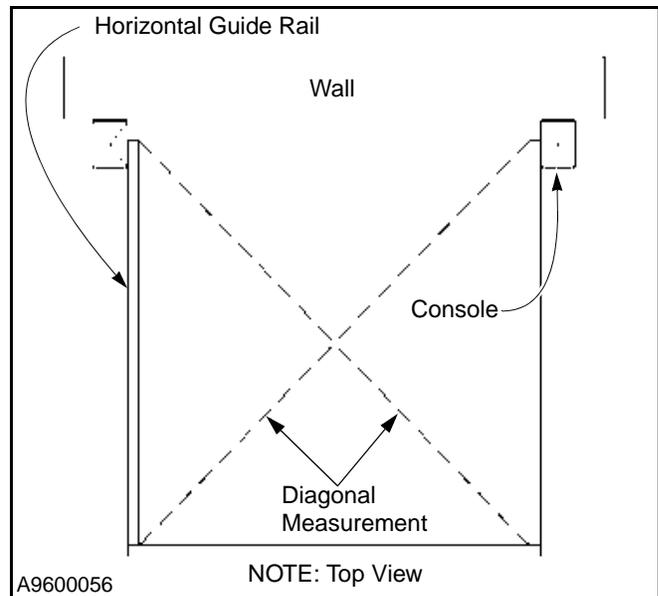

Figure 83
2. To get an accurate square reading of the horizontal guide rail assembly, measure diagonally. Use the same reference points on each side when measuring. The measurements must be identical within ± 0.079 in. (See Figure 83.)